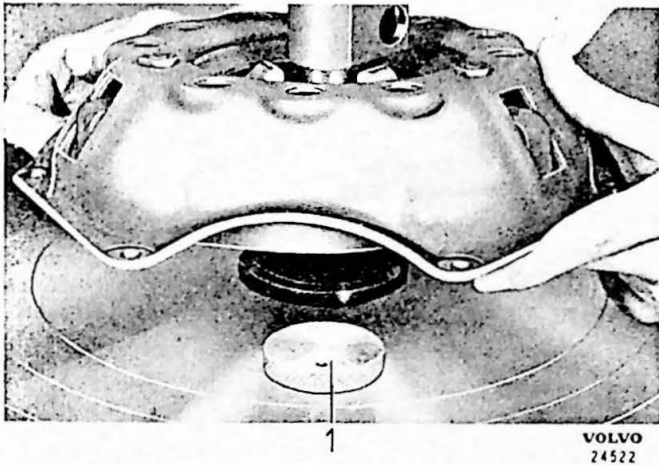
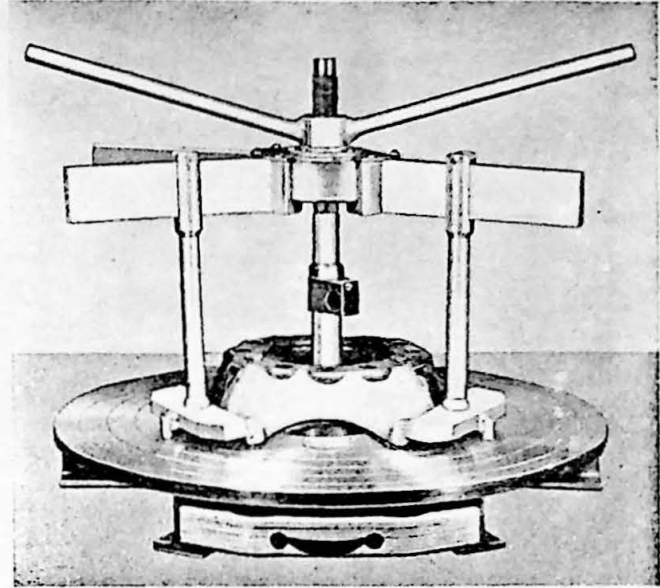

Fig. 2-6. Placing clutch in fixture, I
Fig. 2-7. Placing the clutch in the fixture, II
2. Place the packing blocks No. 0 on fixture SVO 2322, see Fig. 2-6. Place on the clutch, the 3-point supports, the arms and the three thrust rods, see Fig. 2-7. Place on the wrench and press down the clutch until the housing contacts the bottom plate.